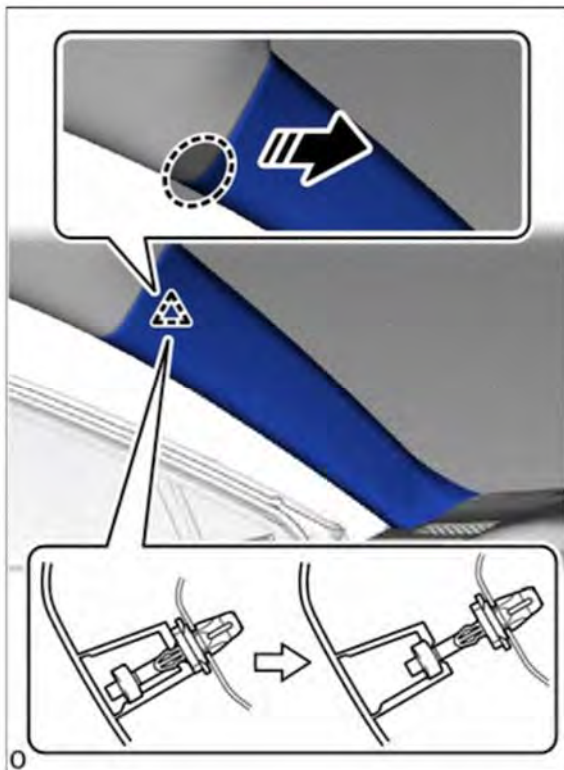

Figure 11
- (a) Place your hand at the position shown in the illustration and pull in the direction indicated by the arrow to detach the front pillar garnish clip. Figure 11.